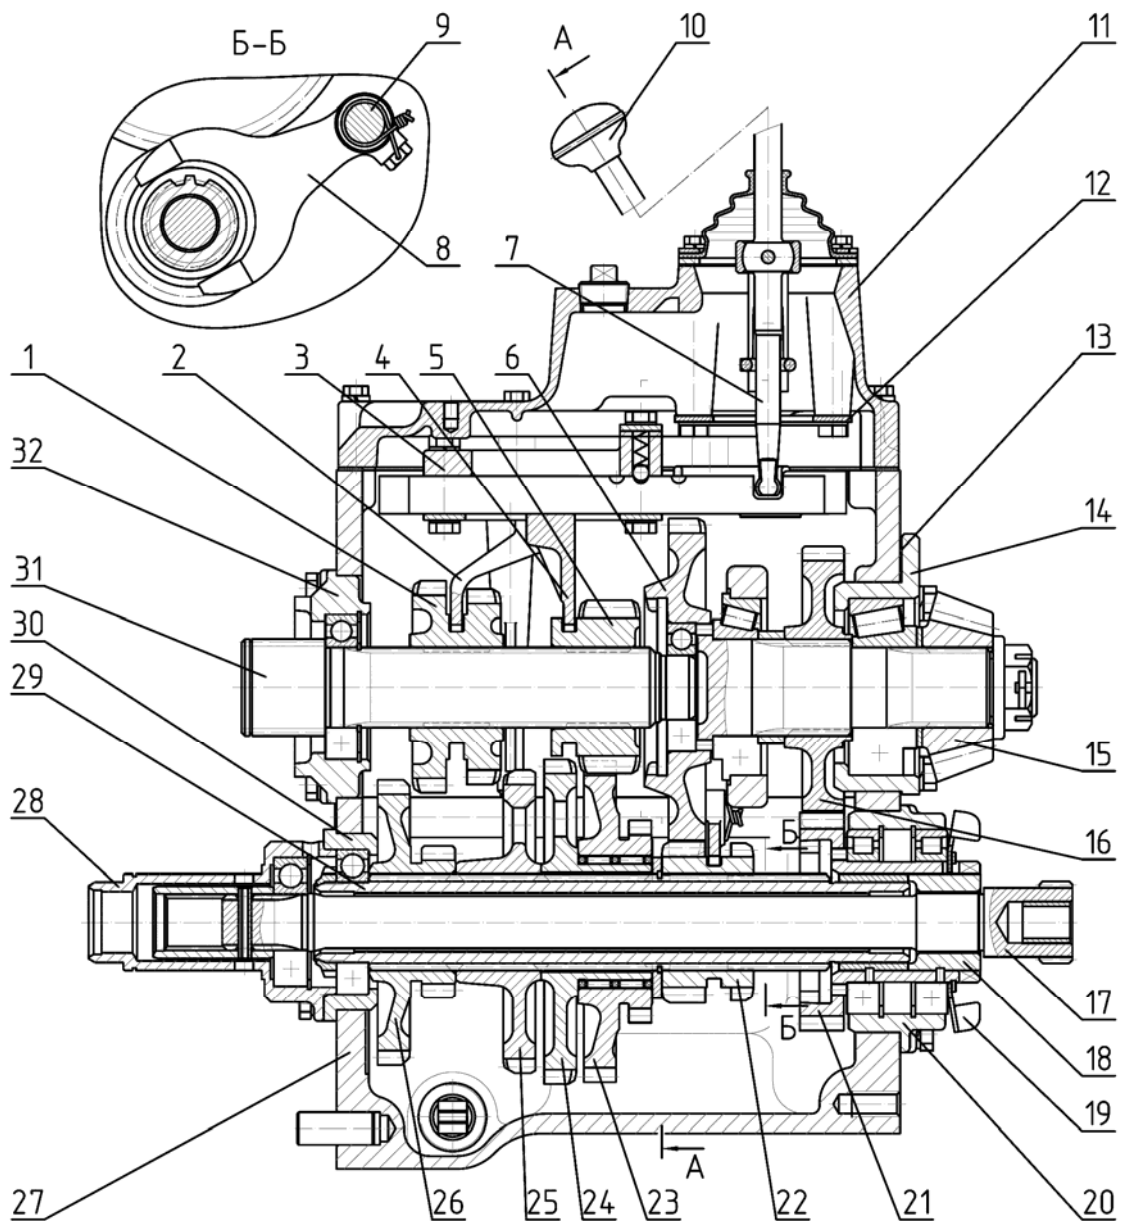
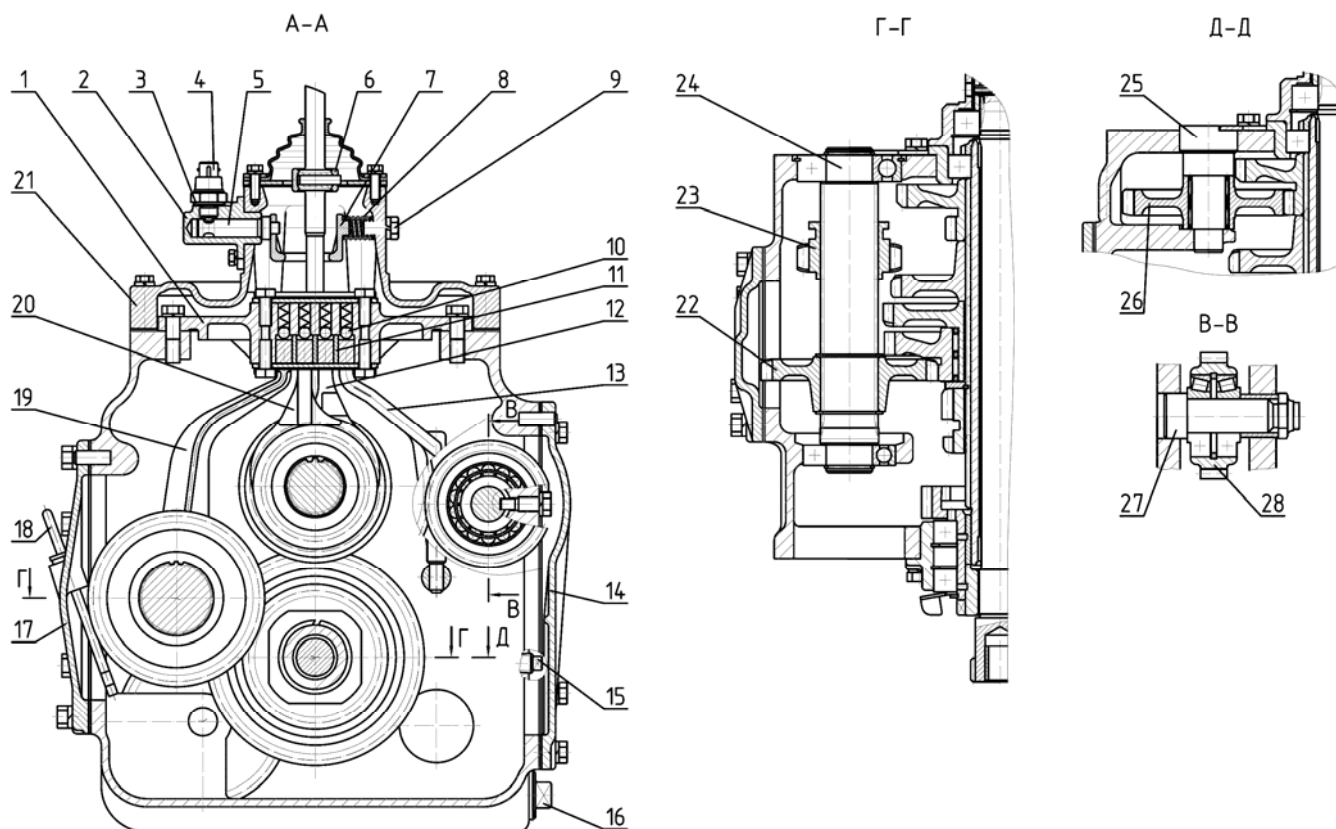

Fig. 1. Gearbox of BELARUS-510/512 tractor (9F/2R)
Fig. 2. Gearbox of BELARUS-510/512 tractor (9F/2R)
The GB (Fig. 1 and 2) consists of the mechanical gears unit and GB control.
The mechanical gears unit of the GB consists of the concentric input (31) and output (6) shafts located in the GB housing (27) (Fig. 1)*, as well as an intermediate shaft (29) parallel to them and the shaft of 1st gear and reverse (24) (Fig. 2).
The input shaft (31) (Fig. 1) is mounted on two ball bearings one of which is placed in the body (32) on the front wall of the GB housing (27). The second one is in the boring of the output shaft (6). On the input shaft, a double-wheel drive pinion of 4th and 5th gears (1) and a drive pinion of 3rd and 6th gears (5) with possibility of axial sliding movement along the shaft splines are installed.
The output shaft supports (6) (Fig. 1) are two tapered roller bearings, one located in the GB housing boring (27), and the second in the body (14) installed in the boring of the rear wall of the GB housing (27). Structurally, the output shaft is made as one piece with the driven pinion of 1st stage of the range reducer. The gear ring is located cantilevered in front of the output shaft (6). Between the supports of the output shaft, the driven pinion of 11nd stage of the range reducer (16) is installed fixed on the splines, which is also the drive pinion of the rear PTO synchronous drive. On the rear arm of the output shaft, the drive gear (15) of the rear axle final drive (small bevel pinion) is installed fixed on the splines.
On the intermediate shaft (29), fixed on the splines are installed the double-wheel driven pinion of 5th and 8th gears and reverse gears (26), driven pinion of 4th and 7th gears (25), and driven pinion of 3rd and 6th gear (24), on the hub of which the double-wheel intermediate pinion (23) is freely rotating on needle roller bearings, being in constant mesh with the pinion (22) (Fig. 2) installed on the shaft of 1st gear and reverse gears (24). On the intermediate shaft (29) (Fig. 1), with the possibility of axial movement the drive pinion (22) of 1st stage of the range-reducer is installed.
The 1st gear and reverse shaft (24) (Fig. 2) is installed on two ball bearings located in the GB housing borings. In the front of the shaft (24) on splines, the sliding pinion (23) of hill-climbing gears and reverse gears is installed. Backward movement of the sliding pinion (23) up to meshing with the pinion (25) (Fig. 1) provides forward hill-climbing gears, and forward movement up to meshing with the intermediate pinion of reverse motion (26) (Fig. 2) provides reverse gears. The intermediate reverse pinion (26) is installed on the axle (25) and is freely rotating on it on a needle roller bearing. The pinion (26) is in constant mesh with the smaller gear ring of the double-wheel gear (26) (Fig. 1).
At the rear part of the shaft (24) (Fig. 2), fixed on its splines, the driven pinion of hill-climbing gears and reverse gears (22) installed, which is constantly meshed with the smaller gear ring of the pinion (23) (Fig. 1) of the intermediate shaft (29).
On the right side of the GB of the tractors with FDA drive, the axle (27) is installed in the GB housing borings, on which on two tapered roller bearings the FDA drive pinion (28) is freely rotating. Power is taken off at the FDA from the driven pinion of 1st stage of the range reducer (6) (Fig. 1), with which the pinion (28) (Fig. 2) is constantly meshed.
On the front wall of the GB housing (27) (Fig. 1), concentrically to the intermediate shaft (29), the seat (28) is installed, inside of which the inner shaft front bearing (17) is located.
On the right and left sides of the GB housing, there are windows (Fig. 2). The left window is closed with the cover (17), in which there is a dipstick (18) to control the oil level. The tractors without an FDA drive have the right window closed with the cover (14), and the tractors with the FDA drive have the cover (14) removed and the window closed by the FDA drive transfer box housing (see section).
The GB control consists of the forks housing (3) (Fig. 1) and the GB control cover (11) that are installed on the upper plane of the GB housing (27) and bolted to it.
The forks housing (3) (Fig. 1) consists of the fork of 1st gear and reverse gears (19) (fig. 2), the fork of 3rd and 6th gears (20), the fork of 4th and 5th gears (12) and the range reducer rod (13), the rails of which are installed in the groove of the housing (1) and can move along the groove. On the upper surfaces of the rails, there are transverse holes in which the spring-loaded balls of the latches (10) are inserted, which provide locking of the forks rails and reducer rail in the desired positions, as well as prevent spontaneous disengagement of the gears under load.
The rod (13) is connected with the shaft (9) (Fig. 1), on which the fork (8) is fixed that moves the drive pinion of 1st stage of the range reducer (22).
The forks and range reducer rails are separated by three lock strips (11) (Fig. 2). The strips (11) are installed in the housing (1) fixed and exclude simultaneous movement of several rails by the gear shifter lever (7) (Fig. 1). When a gear is engaged, the lock strips (11) lock the gear shifter lever (7) (Fig. 1) in the rail groove of the fork of the gear engaged.
The GB control cover (11) consists of the cover (21) (Fig. 2), on the upper surface of which the spherical bearing (6) of the gear shifter lever (7) (Fig. 1) is bolted. When swinging, the gear shifter lever (7) directly affects the rails in the forks housing (3), causing their displacement and, consequently, engagement or disengagement of the selected gear or range in the GB.
The GB design provides an engine start lock when a gear is engaged in the GB. On the right side of the cover (21) (Fig. 2), the housing is installed (2) bolted to it. In the housing (2), the axle (5) of the spring-loaded rocking frame (7) is located. The ring hole of the frame (7) envelops the gear shifter lever (7) (Fig. 1). At that, rocking of the lever (7) results in a corresponding movement of the frame (7) (Fig. 2), the axle flat (5) of which affects the diesel start lock sensor (4) mounted in the threaded hole of the housing (2).
The 9F/2R GB design provides 4 forward gears and one reverse gear, each of them can be engaged on the both range reducer stages, and one direct forward gear, at engagement of which the input (31) (Fig. 1) and output (6) shaft are rigidly linked by the drive pinion of 3rd and 6th gears (5) acting as a gear-type coupling at that.
To select and engage a reducer range, the operator shifts the gear shift lever (7) (Fig. 1) from the neutral position to the range-reducer position (Fig. 3). Further, to engage the 1st reducer stage, the operator shifts the GB control lever (7) (Fig. 1) backwards (Fig. 3). At that, the gear shifter lever (7) (Fig. 1), acting on the reducer rail (13) (Fig. 2), moves it and its associated roller (9) (Fig. 1) with the fork (8) forward. The drive pinion of 1st reducer stage (22) controlled by the fork (8) moves along the intermediate shaft splines (29) and engages with the driven pinion (6) of 1st range reducer stage.
To engage the 2nd reducer stage, the operator shifts the GB control lever (7) (Fig. 1) in the range reducer position forward (Fig. 3). At that, the gear shifter lever (7) (Fig. 1), acting on the reducer rail (13) (Fig. 2), moves it and its associated roller (9) (Fig. 1) with the fork (8) forward. The driven pinion of 1st reducer stage (22) controlled by the fork (8) moves along the intermediate shaft splines (29) and engages with the inner gear ring of the drive pinion (21) of 2nd range reducer stage, linking it to the intermediate shaft (29). The pinion (21) is in constant mesh with the driven pinion of the 2nd range reducer stage (16).
In the GB range reducer, there is no neutral position of the drive pinion of the 1st reducer stage (22) (Fig. 1), therefore either the 1st or the 2nd stage is always turned on in the range reducer.
To engage the 1st or 2nd forward or reverse gear, the operator shifts the GB control lever (7) (Fig. 1) to the extreme left position (Fig. 3) being the position of hill-climbing gears and reverse gears. Further, to engage the 1st or 2nd forward gear, the operator shifts the GB control lever (7) (Fig. 1) forward (Fig. 3). At that, the gear shifter lever (7) (Fig. 1), acting on the rail of the fork of the 1st gear and reverse gear, moves the fork (19) (Fig. 2) backward. The sliding pinion of 1st gear and reverse motion (23) controlled by the fork (19) engages with the driven pinion of 4th and 7th gears (25) (Fig. 1), and power in the GB is transmitted to the GB intermediate shaft (29) through the pinions (5), (23), (22) (Fig. 2), (23) and (25) (Fig. 1).
To engage the 1st or 2nd reverse gear, the operator shifts the GB control lever (7) (Fig. 1) to the position of hill-climbing gears and reverse gears backward (Fig. 3). At that, the gear shifter lever (7) (Fig. 1), acting on the rail of the fork of the 1st gear and reverse gear, moves the fork (19) (Fig. 2) forward. The sliding pinion of 1st gear and reverse motion (23) controlled by the fork (19) engages with the intermediate pinion of reverse gear (26) being in constant mesh with the lesser gear ring of the double-wheel pinion of 5th and 8th gears (26) (Fig. 1). At the reverse gear, power flow in the GB is transferred to the intermediate shaft (29) through the pinions (5), (23), (22) (Fig. 2), (23), (26) and (26) (Fig. 1).
lever (7) (Fig. 1) to the respective positions of those gears (Fig. 3). Further, to engage the 3rd (6th) gear, the operator shifts the GB control lever (7) (Fig. 1) to the position of the said gears backward (Fig. 3). At that, the gear shifter lever (7), acting on the rail of the fork of 4th and 5th gears, moves the fork (20) (Fig. 2) forward. The sliding pinion of 3rd and 6th gears (5) controlled by the fork (20) (Fig. 1) engages with the driven pinion of 3rd and 6th gears (24). By the emerged mesh, power is transferred to the GB intermediate shaft (29).
To engage the 9th (direct) gear, the operator moves the GB control lever (7) (Fig. 1) from the position of the 3rd (6th) and 9th (direct) forward gears (Fig. 3). At that, the gear shifter lever (7), acting on the rail of the fork of 3rd and 6th gears, moves the fork (20) (Fig. 2) forward. The sliding pinion of 3rd and 6th gears (5) controlled by the fork (20) (Fig. 1) engages with the inner gear ring of the output shaft (6), rigidly linking the input (31) and output (6) shafts.
The 9th (direct) gear must be engaged when the IInd range reducer stage is engaged (Fig. 3). This will avoid a loud noise in the GB, since the IInd reducer stage has an intermediate shaft speed (29) (Fig. 1) less than the Ist stage.
To engage the 4th (7th) or 5th (8th) gear, the operator shifts the GB control lever (7) (Fig. 1) to the respective positions of those gears (Fig. 3). Further, to engage the 4th or 7th gear, the operator shifts the GB control lever (7) (Fig. 1) to the position of the said gears forward. At that, the gear shifter lever (7), acting on the rail of the fork of 4th and 5th gears, moves the fork (12) (Fig. 2) and the drive pinion unit of 4th and 5th gears (1) controlled by it (Fig. 1) backward. The smaller gear ring of the unit (1) engages with the driven pinion of 4th and 7th gears (25). By the created mesh, power from the input shaft (31) is transferred to the GB intermediate shaft (29).
To engage the 5th or 8th gear, the operator shifts the GB control lever (7) (Fig. 1) to the position of the said gears backward (Fig. 3). At that, the gear shifter lever (7), acting on the rail of the fork of 4th and 5th gears, moves the fork (12) (Fig. 2) and the drive pinion unit of 4th and 5th gears (1) controlled by it (Fig. 1) forward. The larger gear ring of the unit (1) engages with the driven pinion of 5th and 8th gear (26). By the created mesh, power from the input shaft (31) is transferred to the GB intermediate shaft (29).